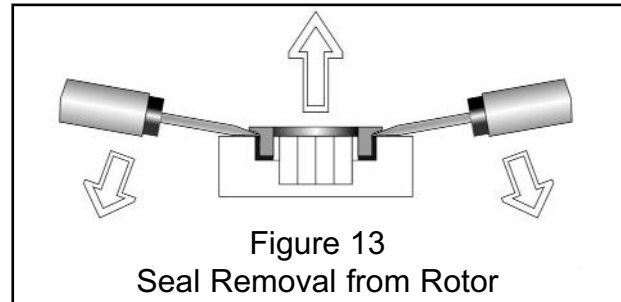

Figure 13
c) Only remove the rotary seal seat (80) from the back of the rotor (56 & 57) if you intend to fit a new seal or cup rubber (83). Gently prise out the seat from the rotor using two blunt screwdrivers. (See figure 13). Seat materials are brittle, eye protection is